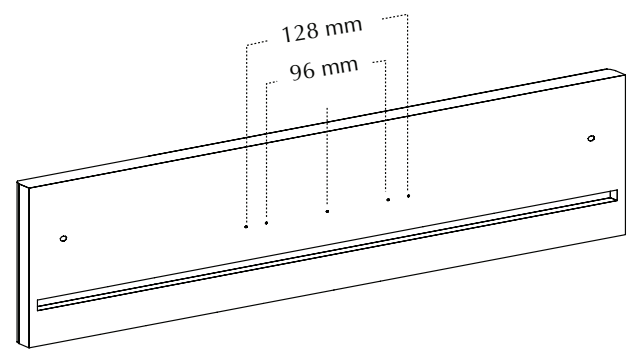

Fig. 3
4. Attach the drawer handle. (Three sizes of screws are supplied to accommodate drawer front styles.) See Fig. 3.